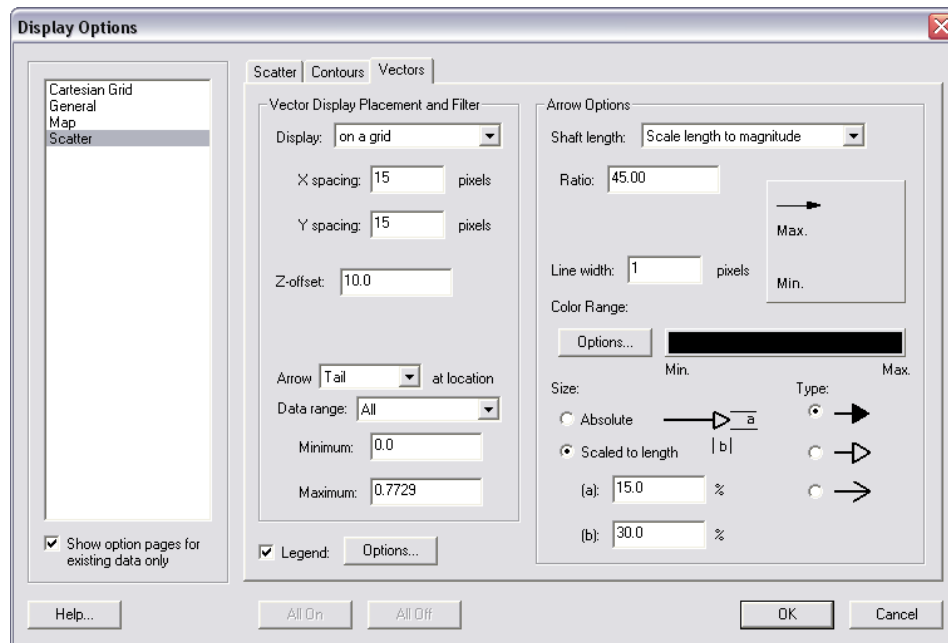

Figure 8.1.10. Vector Display options for scatter points.
3. To display the velocity as arrows with magnitude and direction, go to *Display Options*, the *Scatter* tab, and check *Velocity Vectors* on. Modify the vector display under the *Vectors* tab by setting the Vector Display to *At each node*, setting the *Z-offset* to 10.0, and the *Arrow Options Shift Length* to *Scale Length to Magnitude* (Figure 8.1.10).